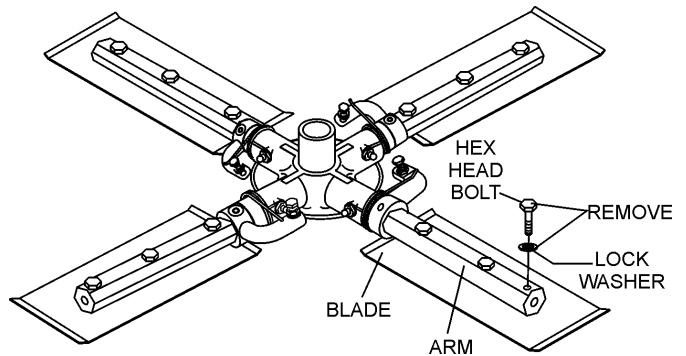

Figure 30. Trowel Blades
1. Remove the trowel blades from the trowel arm by removing the three hex head bolts (Figure 30) from the trowel arm. Set blades aside.